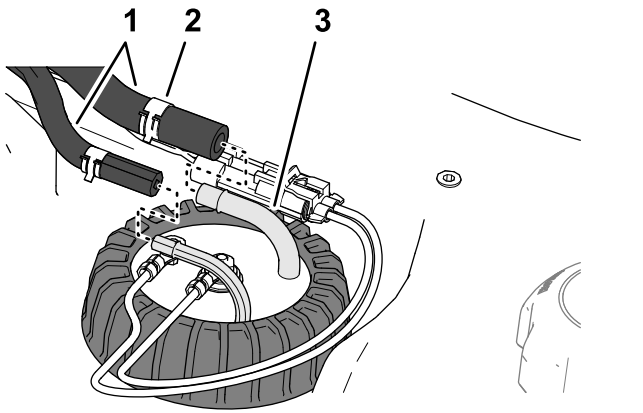

**Figure 83**
3. Remove the 2-socket connector of the fuel-sender harness from the 2-pin connector of the machine wire harness (Figure 83).